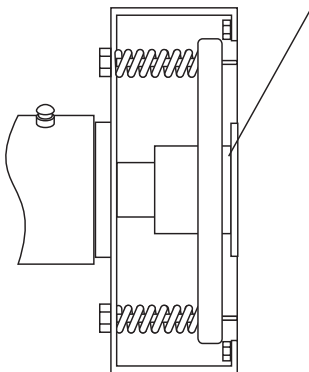

Figure 44. Replacing Drum Seals
3. Once the pressure plate touches the drum, it is time to replace the graphite seals (Figure 44).